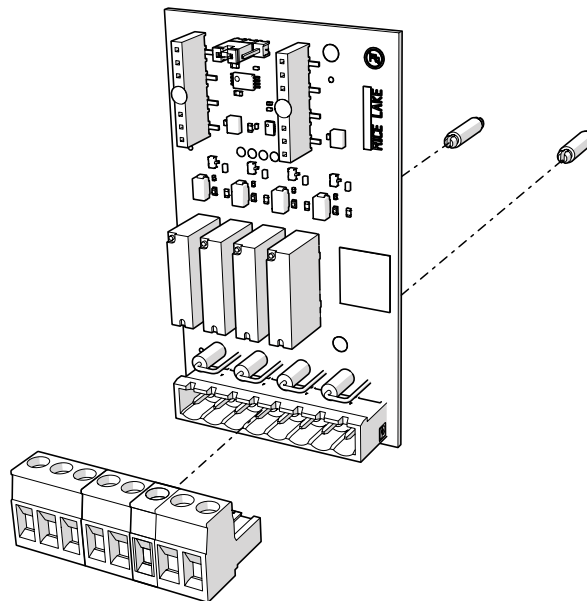

Figure 1. Relay Option Card Kit
Figure 1 and Table 1 show the parts provided in the relay option card kit:
3. Connect the two standoffs to the option card board as shown in Figure 1 on page 1.